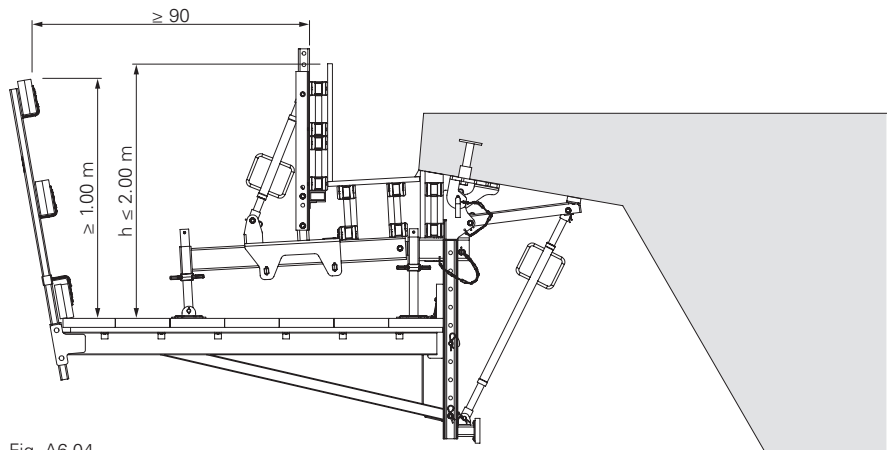

Fig. A6.04
- Installation of planking depending on the fall height  $h$  and span in accordance with DIN 4420-1, Table 2. (Fig. A6.04)